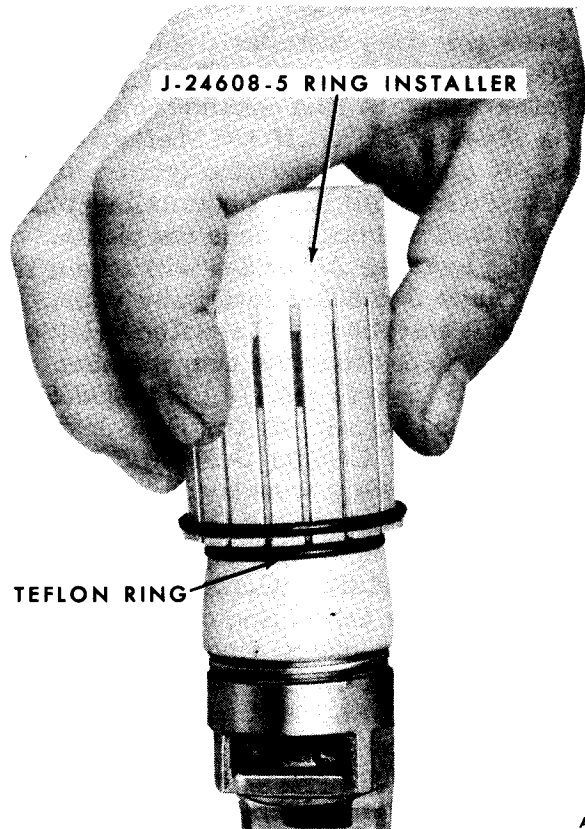

Figure 117—Installing Teflon Piston Ring
5. Push the Ring Installer J-24608-5 down over the Installer Guide J-24608-2 to install the Teflon ring in the piston ring groove (figures 117 and 118). If the Teflon ring is slightly off position in the ring groove, it can be positioned into place by fingernail or blunted tool that will not damage the piston.